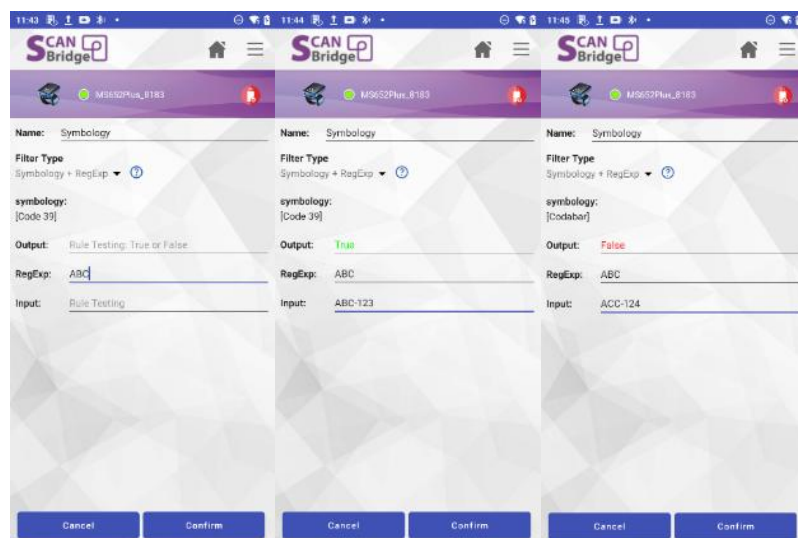
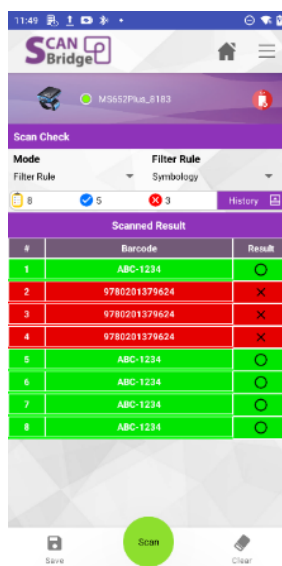

Figure 7.4.7
Figure 7.4.8
- To set regular expression, simply enter in RegExp text field. Additionally, user can use the "Input" field to run quick test. In below example (Figure 7.4.7), it will perform partial match to scanned result which contain 'ABC', if there is a partial match will consider as match. You can see the check with when symbology is also checked in Figure 7.4.8